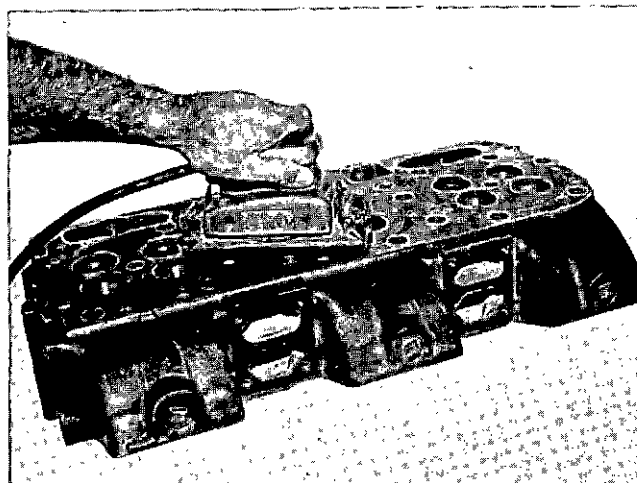

Fig. 2-1-12, V40221. Sand cylinder head
8. After drying with compressed air, using orbital sander, sand cylinder head surface lightly, just enough to shine the finish, Fig. 2-1-12. This will allow a more complete inspection of mating surfaces.
4. Sand surface of cylinder head with an orbital sander. **Do not use a disc sander.** Do not allow the sander to tilt or rock, since this may result in rounding of the machined edges. Fig. 2-1-12.